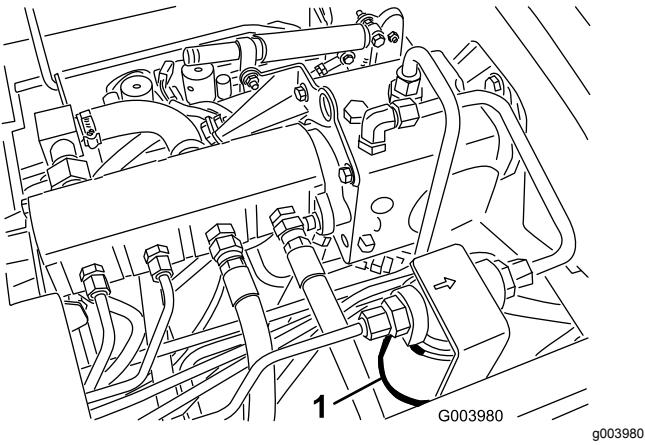
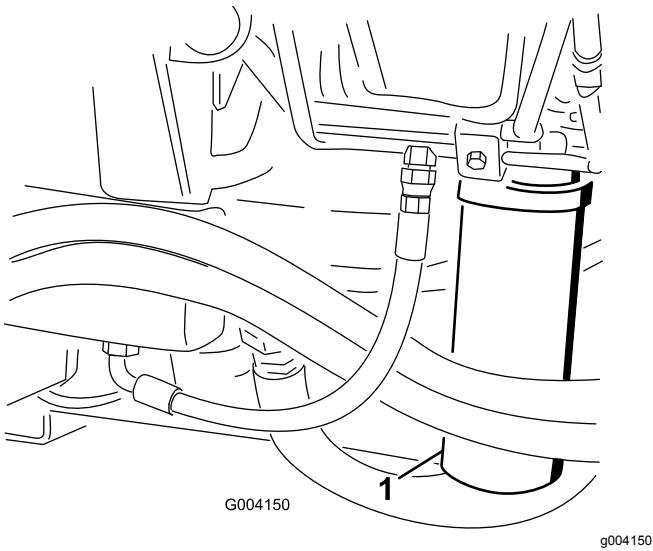

Figure 69
Figure 70
2. Clean the area around the filter mounting area and place a drain pan under filter (Figure 69 and Figure 70).